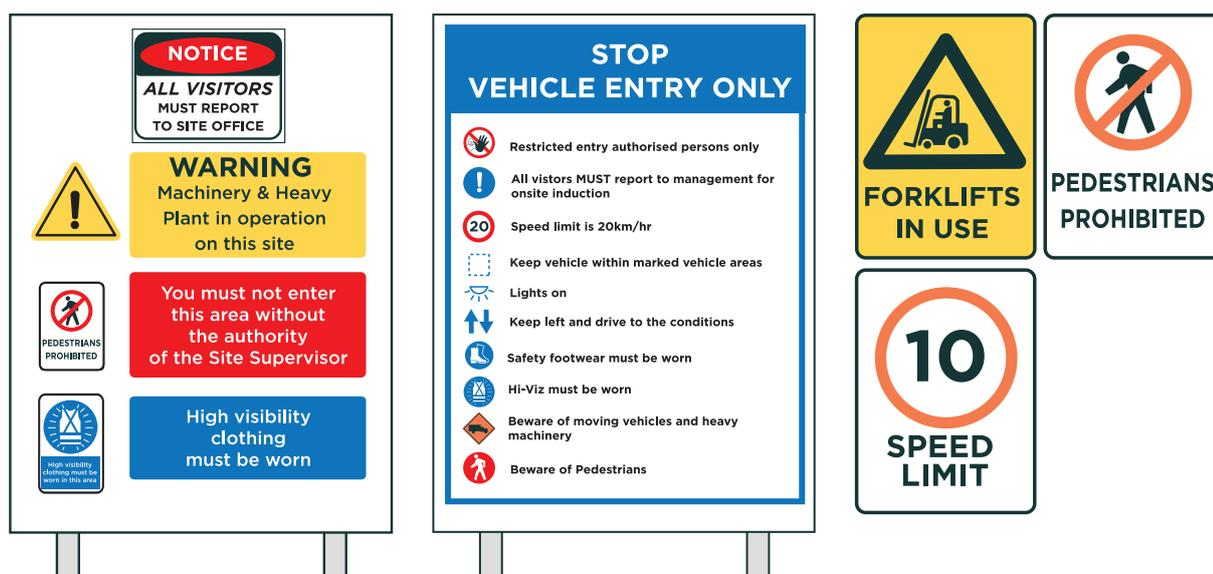

FIGURE 13: Examples of work site signage
- Signs for drivers and pedestrians should be the same as those used on public roads, wherever a suitable sign exists. Otherwise, use industry accepted signs and colours (see Figure 13), for example: